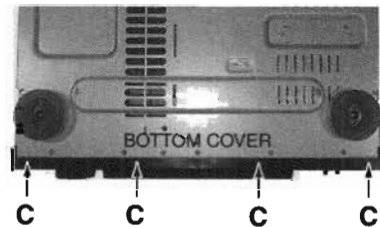

Fig.2
■ Front panel assembly removal (See Fig.2,3)